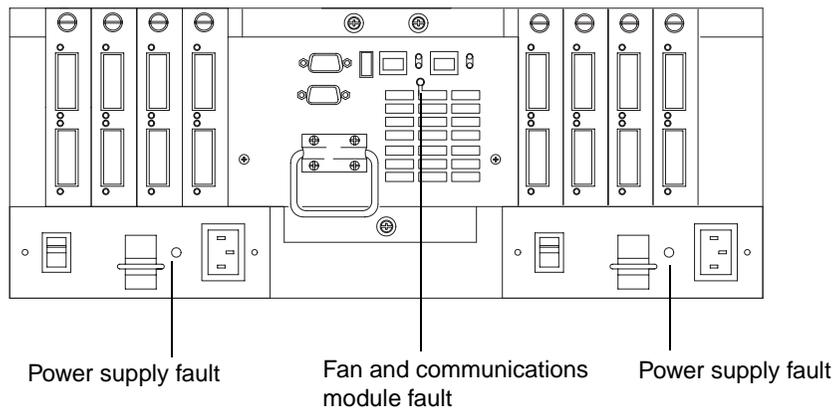

Figure 10. Controller unit indicator lights — back view
- 3 Check the indicator lights on the back of the controller unit, as shown in Figure 10 on page 18 and described in Table 3 on page 19.
The indicator lights on the back of the controller unit are shown in Figure 10 and are described in Table 3 on page 19.